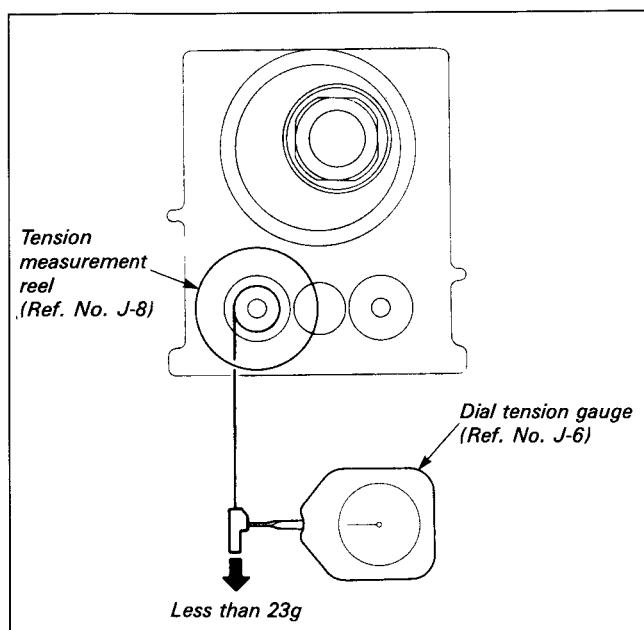

Fig. 7-55.
1. S Main Brake Torque (See Fig. 7-55, 7-56)